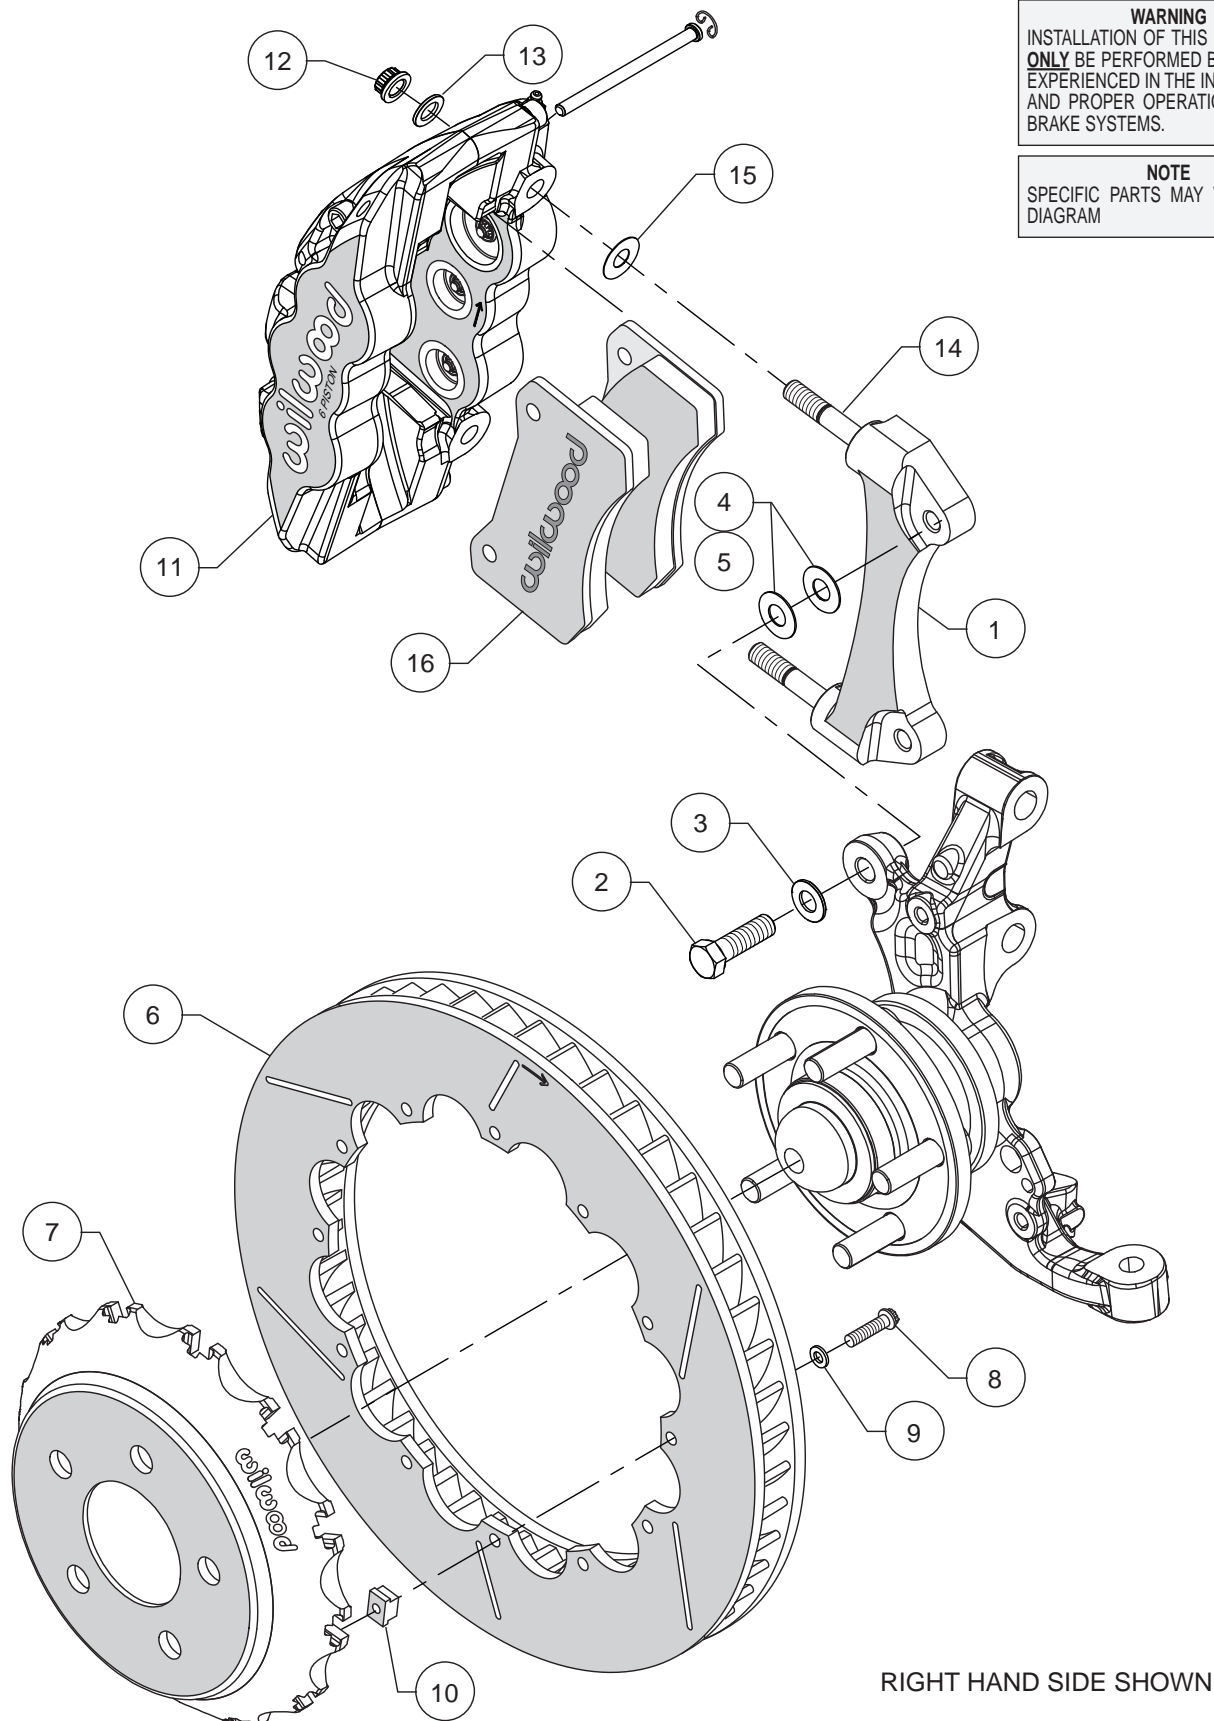
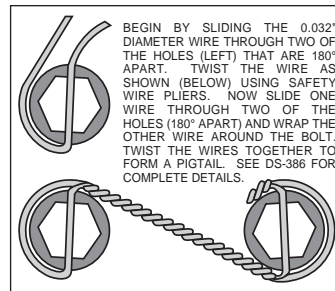

Figure 1. Typical Installation Configuration
Figure 3. Safety Wire Diagram
Assembly Instructions (numbers in parenthesis refer to the parts list and Figure 1 on the preceding pages):
- The caliper mount bracket (1) should initially be installed with clean, dry threads on the mounting bolts. Orient the bracket, as shown in Figure 1 and Photo 1, and install using bolts (2) and washers (3). Initially place two .033" thick shims (4) on each bolt between the bracket and upright, Figure 1. Temporarily tighten the mounting bolts. **NOTE:** The bracket must fit squarely against the mount bosses on the upright. Inspect for interference from casting irregularities, machining ridges, burrs, etc. Later, after the caliper alignment has been checked, the mount bolts will be secured using red *Loctite*® 271.
- Orient the rotor (6) and the hat (7) as shown in Figure 1 and Photo 2. Attach rotor to hat using bolts (8), washers (9), and t-nuts (10), Figure 1. Follow additional instructions included with the bolt kit. Using an alternating sequence, apply red *Loctite*® 271 to the threads, and torque to 120 in-lbs. Safety wire bolts using standard 0.032 inch diameter stainless steel safety wire as shown in Figure 3. Refer to Wilwood's data sheet DS-386 (available at www.wilwood.com/Pdf/DataSheets/ds386.pdf) for complete safety wire installation instructions.
- NOTE:** This kit contains distinct right and left hand calipers that must be mounted in a specific direction, as described below. Lubricate the caliper mounting studs (14) with lightweight oil. Initially place one .030" thick shim (15) on each stud between the caliper and the bracket, as shown in Figure 1 and Photo 4. Mount the caliper (11) onto the bracket (1) using lock nuts (12) and washers (13), Figure 1. Temporarily tighten the lock nuts. Ensure that the caliper is mounted so the largest pistons are at the rotor exit end of the caliper, in relation to the direction of the rotor. View the rotor through the top opening of the caliper. The rotor should be centered in the caliper, Photo 5. If not, adjust by adding or subtracting shims (4 and/or 5) between the bracket and the upright. Always use the same amount of shims on each of the two mounting bolts. Once the caliper alignment is correct, remove the bracket mounting bolts one at a time, apply red *Loctite*® 271 to the threads, and torque to 60 ft-lbs.
- Remove the two pad retaining pins from the caliper (11) by carefully popping out the pin retaining clips and sliding out the pins. Insert the brake pads (16) into the caliper from the bottom, Figure 1 and Photo 6. With the friction material facing the rotor, secure the brake pads in place with the pad retaining pins and clips, Photo 7. Reinstall the caliper onto the caliper mounting bracket and temporarily tighten the lock nuts. Check that the top of the brake pad is flush with the outside diameter of the rotor, Photo 8. If not, adjust by adding or subtracting shims (15) between the caliper and the bracket. After the caliper pad height is set, torque the caliper lock nuts (12) to 47 ft-lb.